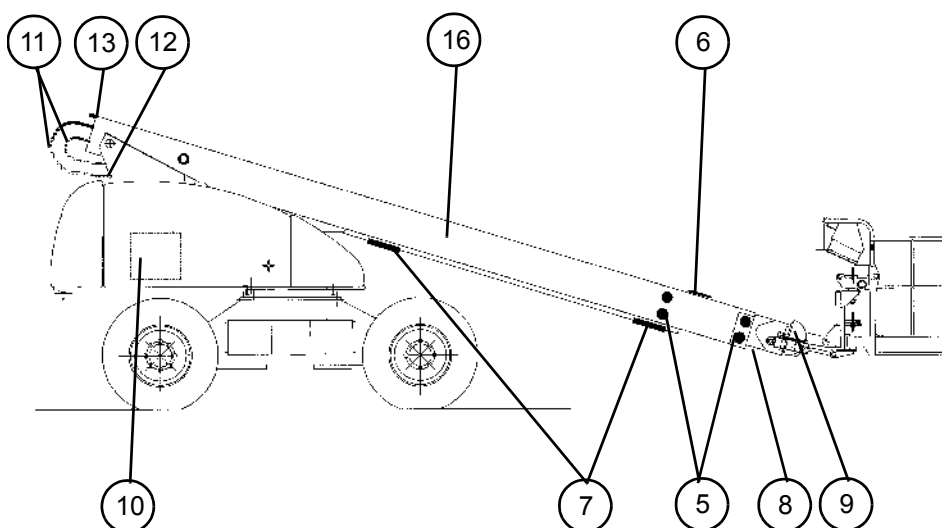

Figure 1
- With the boom lowered, marked the position of each side and top guide pad (5, Figure 1), then remove all pads, by removing their fixing screws and washers.
- Free the parachute cable (6) after noting the length of the free threaded part.